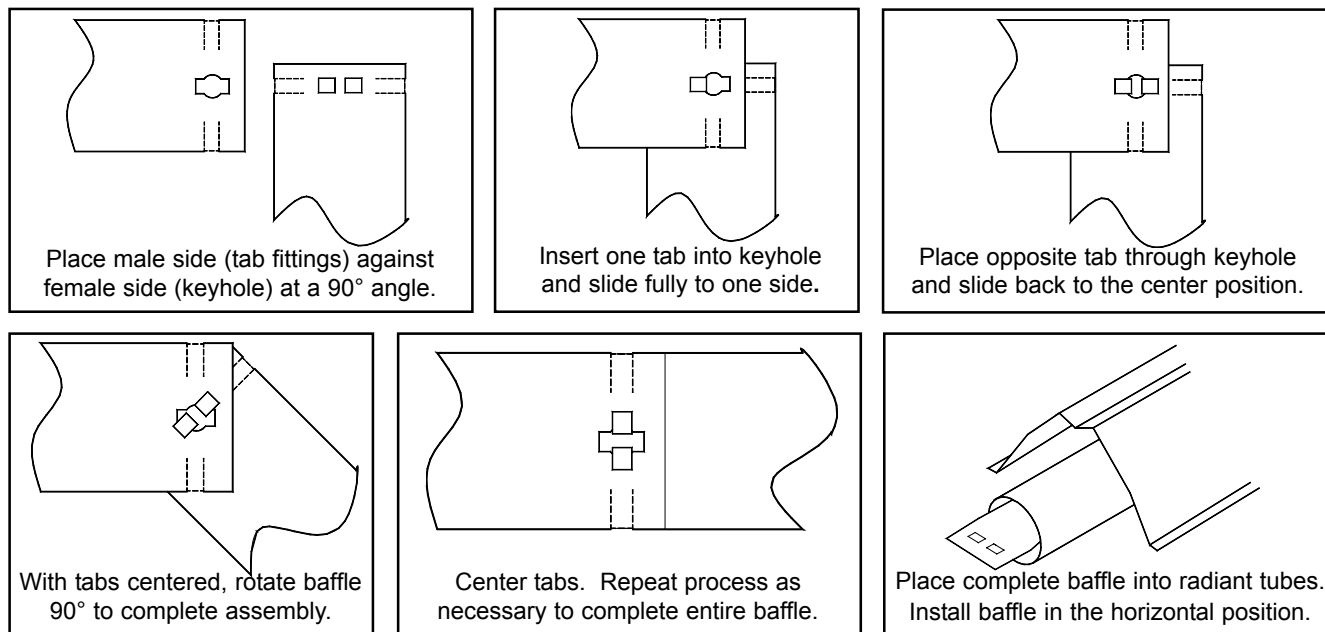

Figure 3-9
2. As shown in figure 3-9, assemble the baffle to the proper length. Baffle assembly may be done on the ground or assembled in increments of 33" while being fed into the tube.
NOTE: Install assembled baffle so that the key hole is inserted first. All baffles must be placed horizontally in the radiant tube/heat exchanger as shown in figure 3-9.